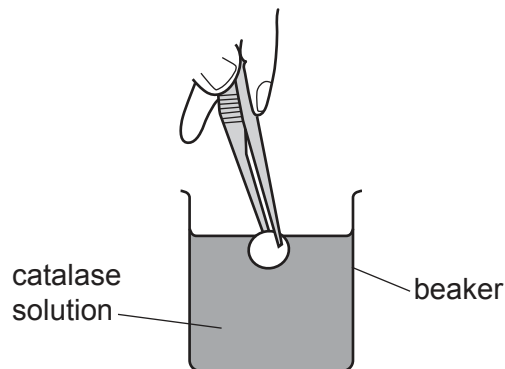

Fig. 1.1
- Step 1** Use the forceps to dip one of the small paper disks in the catalase solution, as shown in Fig. 1.1.